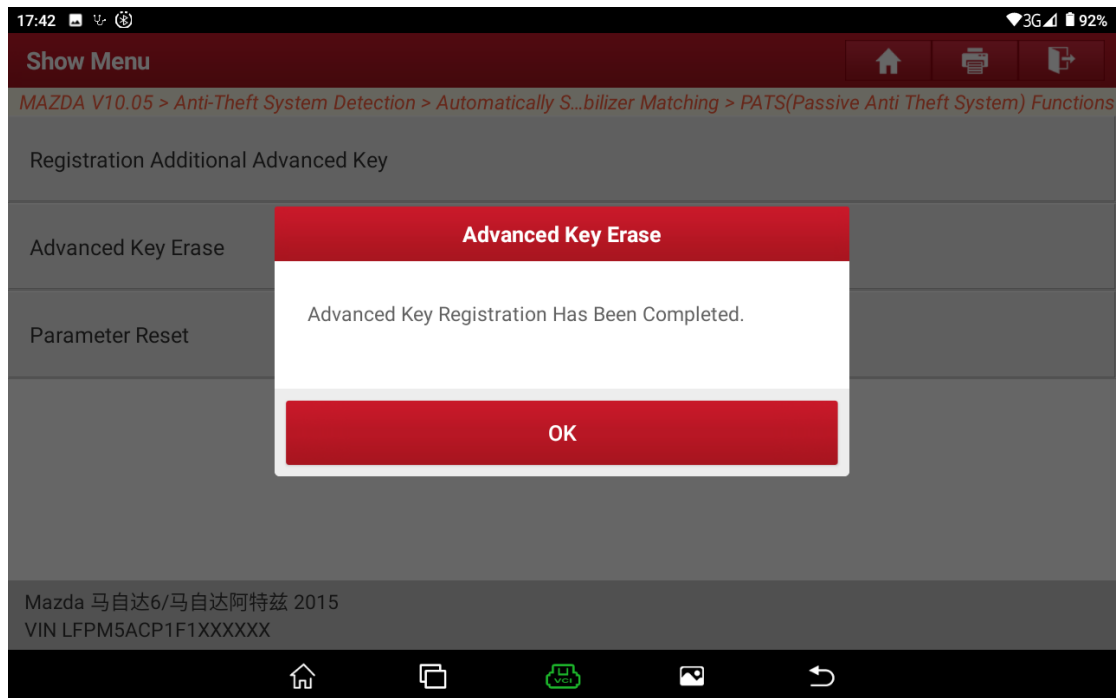

Figure 27
25. Registration is completed. See Figure 27.